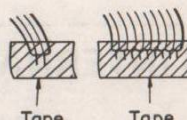

Fig. 3
6. Remove the 1 screw (6). (See Fig. 3)
7. Remove the 2 flat cables (CS305, CS306). (See Fig. 3)